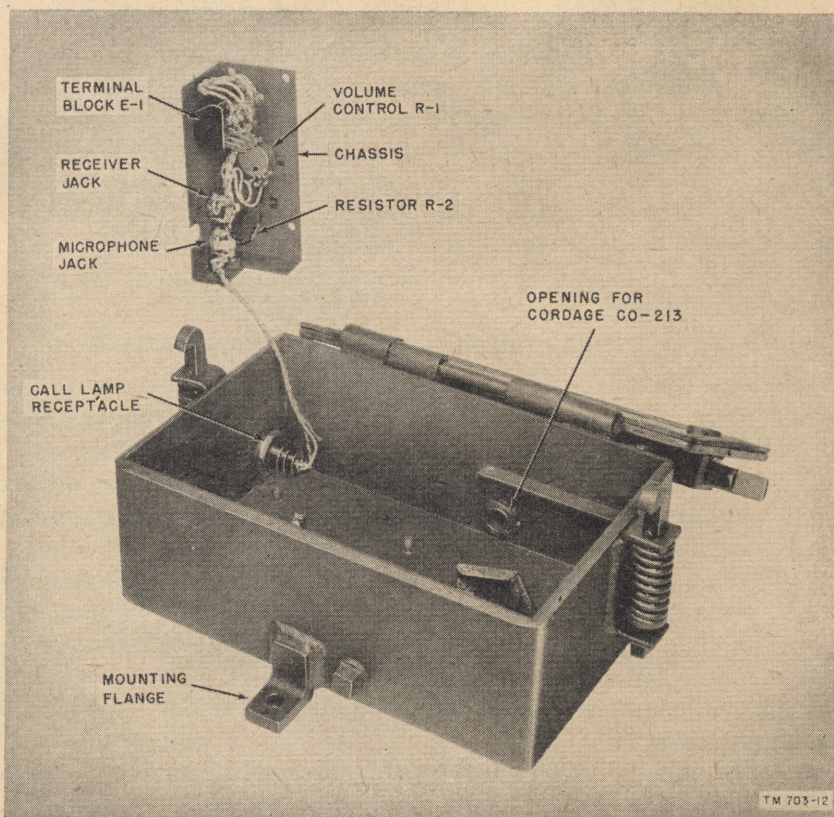

Figure 14. External Interphone Box BC-1362, terminal strip.
- (1) Mount External Interphone Box BC-1362 on the rear of the vehicle in the location indicated, using the screws and lock-washers provided.
- (2) Feed the end of cordage (item 2) through the proper connector opening of the interphone box, and connect the leads to the terminal strip as shown in figure 14.
- (3) If binding posts are not provided within the interphone box, tape the red and green cordage leads. If posts are provided, connect the red and green leads to the binding posts.
- (4) Apply sealing compound to all connectors which are external to the vehicle.